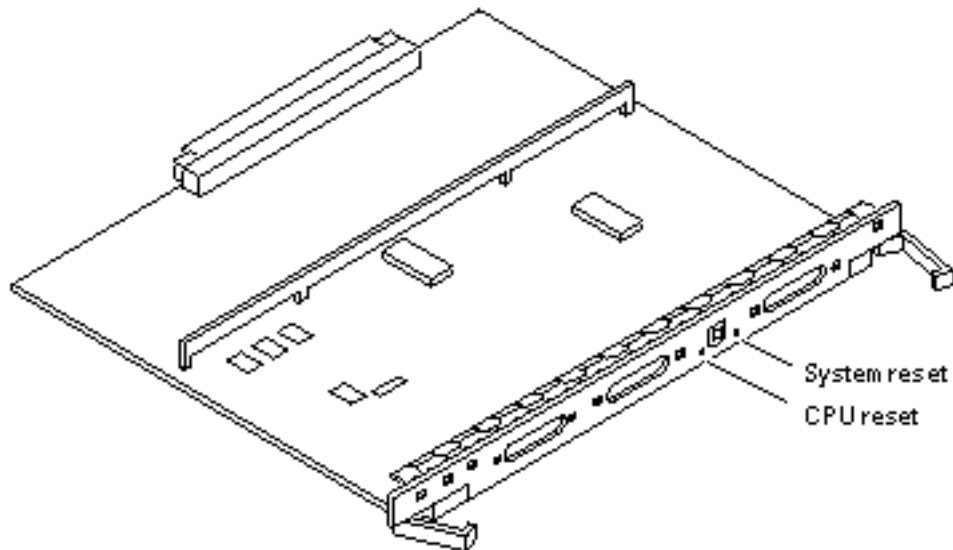

Figure 3-3 Reset Switches on the Clock+ Board
8. To restart firmware, or if the system hangs, press the CPU reset switch on the clock+ board (Figure 3-3).